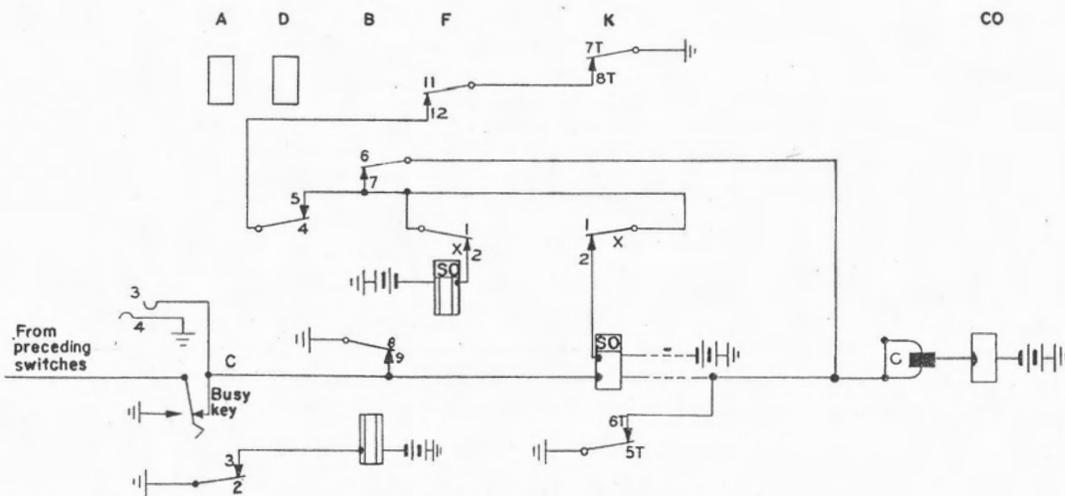

Figure 17. Control lead and connector relays held during conversation.
Figure 17 shows holding-circuit details within the connector itself. Relay A holds relay B. Thru relay K contacts 5T-6T and relay B contacts 6-7, the caller holds relays F and K to keep the transmission path closed thru. This, like most connectors, is a "last-party-release" connector: thru relay K contacts 7T-8T and relay D contacts 4-5, the called party, too, holds relays F and K to keep the transmission path closed thru. Thus, the two conversing parties have joint control of the connector. Either or both can hold it. It holds its wipers at the called line until the last of the 2 parties to hang up has hung up.
Next, the called party hangs up, releasing relay D. Relay D contacts 4-5 (figure 17) release relays F and K. Relay K opens the wipers (so that during release they will be electrically "dead" when they rotate over other lines), and relay K contacts 3B-4B operate the release magnet. See §18.5.
18.2 If called party hangs up first, relay D releases, opening its contacts 4-5 (figure 17) as in the paragraph above ... but this time relay B contacts 6-7 continue to hold relays F and K. There is no further action until the caller hangs up, restoring relay A. Relay E operates again, but has no function. Relay B releases, removes ground from lead C to release the switch train, and opens the circuits of relays E, K, and F. Relay K disconnects the wipers, and (figure 25) operates the release magnet. See §18.5.